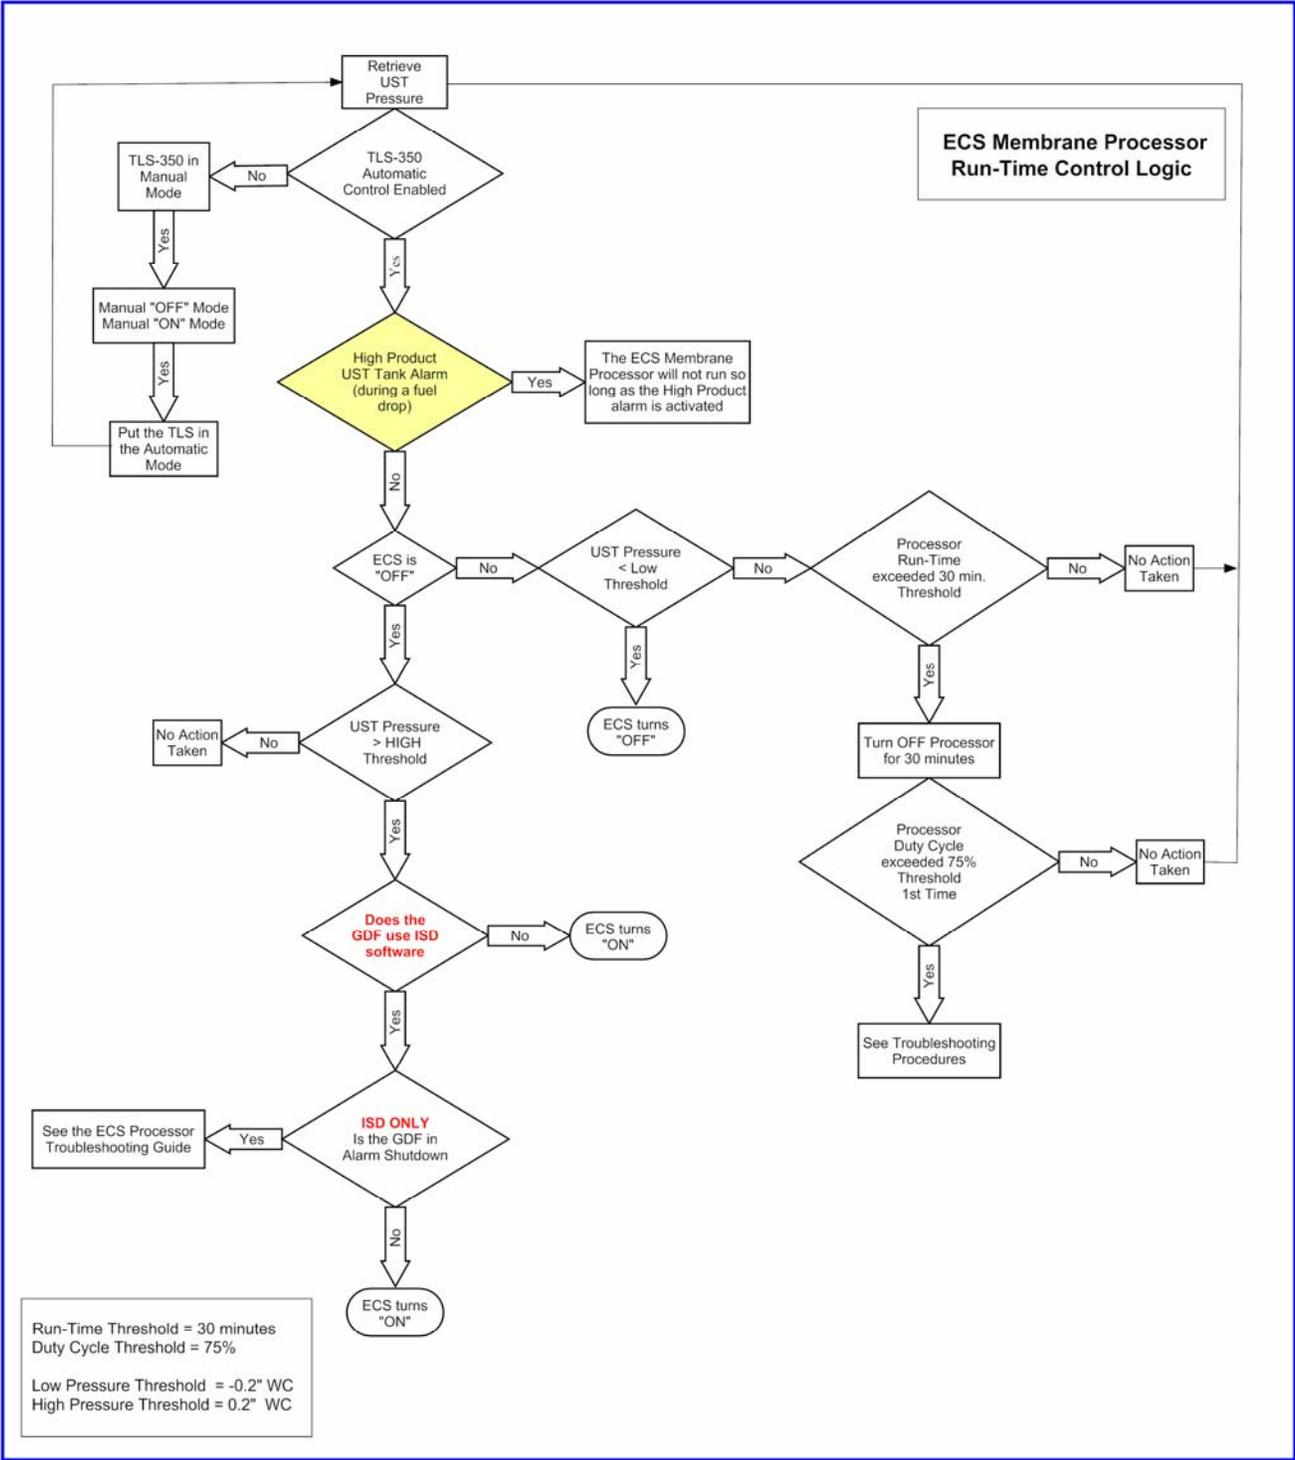

Figure 9: Processor Run-Time Algorithm
- The internal relay must be programmed as a **VST VAPOR PROCESSOR (VP)** through the TLS 350 relay setup menu.
- Figure 9: Page 15-31 shows the *Processor Run-Time* Algorithm.